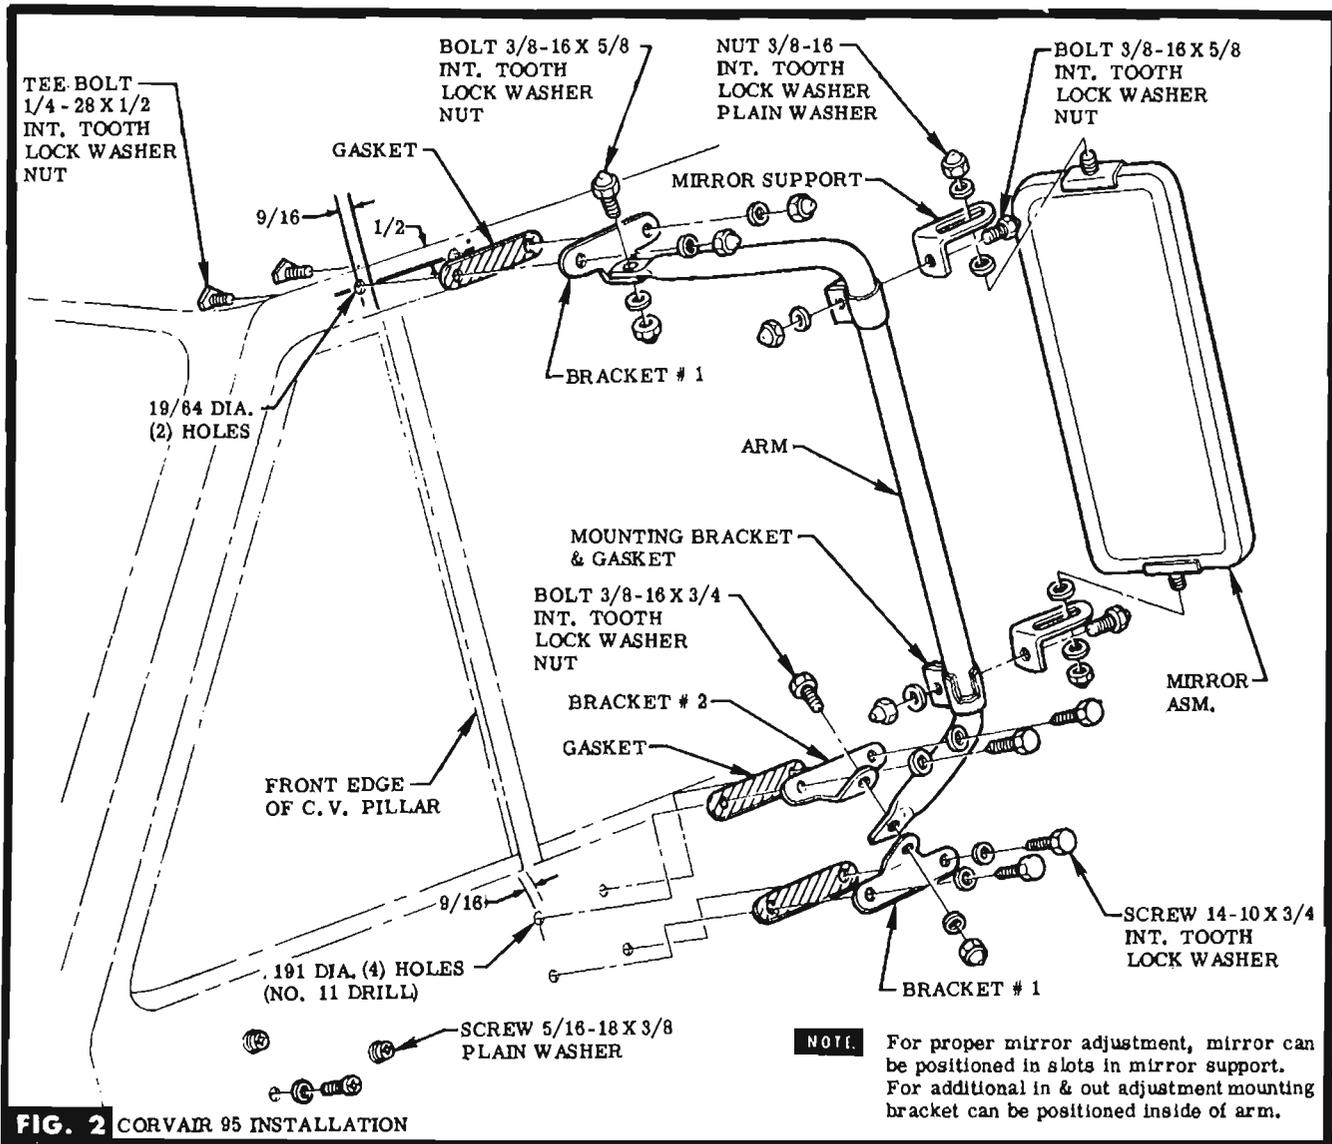

FIG. 2 CORVAIRE 95 INSTALLATION
STEP 1a ON L. H. SIDE ONLY, REMOVE & DISCARD EXISTING MIRROR & ATTACHING PARTS. PLUG HOLES WITH PARTS PROVIDED. SEE FIG. 2.
STEP 2a MARK HOLE CENTER AT TOP OF DOOR & VERTICAL CENTERLINE AT BOTTOM FROM FRONT EDGE OF C. V. PILLAR, USE DIMENSIONS SHOWN. USING TOP BRACKET (STAMPED # 1) AS TEMPLATE, MARK REMAINING TOP HOLE. SEE FIG. 2.
STEP 3a CENTERPUNCH & DRILL TOP HOLES & ATTACH TOP BRACKET (STAMPED # 1) & GASKET WITH ATTACHING PARTS PROVIDED. SEE FIG. 2.
STEP 4a ASSEMBLE MOUNTING BRACKETS & GASKETS TO ARM. SEE FIG. 2. **NOTE** Do not spread brackets over tube, but assemble from arm end.
STEP 5a ASSEMBLE BRACKET (STAMPED # 2) TO TOP SIDE OF LOWER PART OF ARM, & BRACKET (STAMPED # 1) TO BOTTOM SIDE OF LOWER PART OF ARM WITH ATTACHING PARTS PROVIDED. SEE FIG. 2.
STEP 6a ATTACH UPPER PART OF ARM TO TOP SIDE OF TOP BRACKET WITH ATTACHING PARTS PROVIDED. SEE FIG. 2.
STEP 7a LINE UP LOWER BRACKETS WITH CENTERLINE PREVIOUSLY MARKED, USE BRACKETS AS TEMPLATE, MARK HOLE CENTERS, CENTERPUNCH & DRILL BOTTOM HOLES. SEE FIG. 2.
STEP 8a ATTACH BOTTOM BRACKETS & GASKETS WITH ATTACHING PARTS PROVIDED. SEE FIG. 2.
STEP 9a ASSEMBLE MIRROR SUPPORTS TO MIRROR WITH ATTACHING PARTS PROVIDED. SEE FIG. 2.
STEP 10a INSTALL MIRROR BY ATTACHING MIRROR SUPPORTS TO MOUNTING BRACKETS WITH ATTACHING PARTS PROVIDED. SEE FIG. 2.